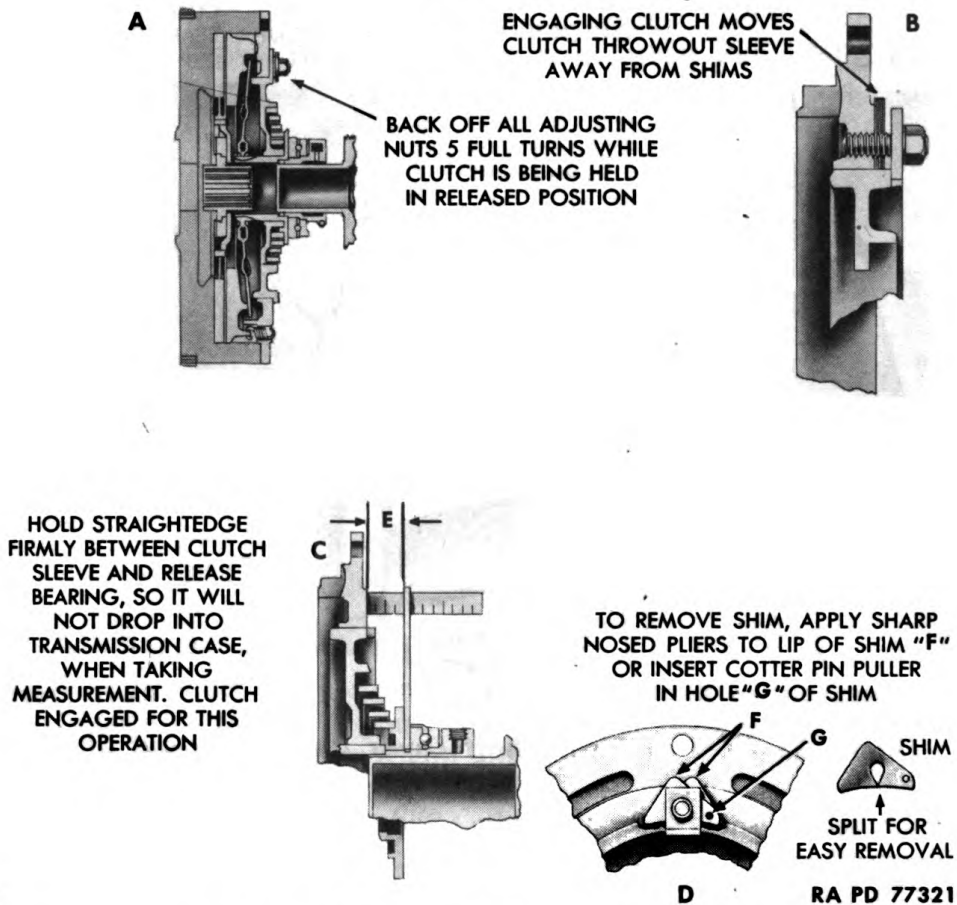

Figure 32 – Steps in Adjusting Clutch
b. Adjustment (figs. 31 and 32). Disconnect clutch control rod and clutch pedal lever by removing cotter pin and clevis pin. Loosen six cross rod bracket bolts on either side of frame and remove step plates, brackets, and cross rod assembly as a unit. Remove inspection plate underneath clutch housing. Block clutch disengaging lever in full release position. Turn engine slowly with hand crank until adjusting straps (with shim packs) are accessible. Back off all six adjusting nuts approximately five full turns while clutch is in a released position. Remove blocking from disengaging lever. This will move clutch throw-out sleeve back away from shims. Remove shims as necessary to obtain $1\frac{1}{8}$ - to $1\frac{3}{16}$ -inch clearance between faces of clutch throw-out sleeve and flywheel ring (E, fig. 32). Removal of one shim from each pack will reduce clearance $\frac{7}{64}$ inch. Always remove or install same number of shims from each pack to ensure full contact between pressure and driven plates. Check trunnion fork throw-out levers for even contact against the two trunnion lugs, by inserting a feeler between each lug and lever at the